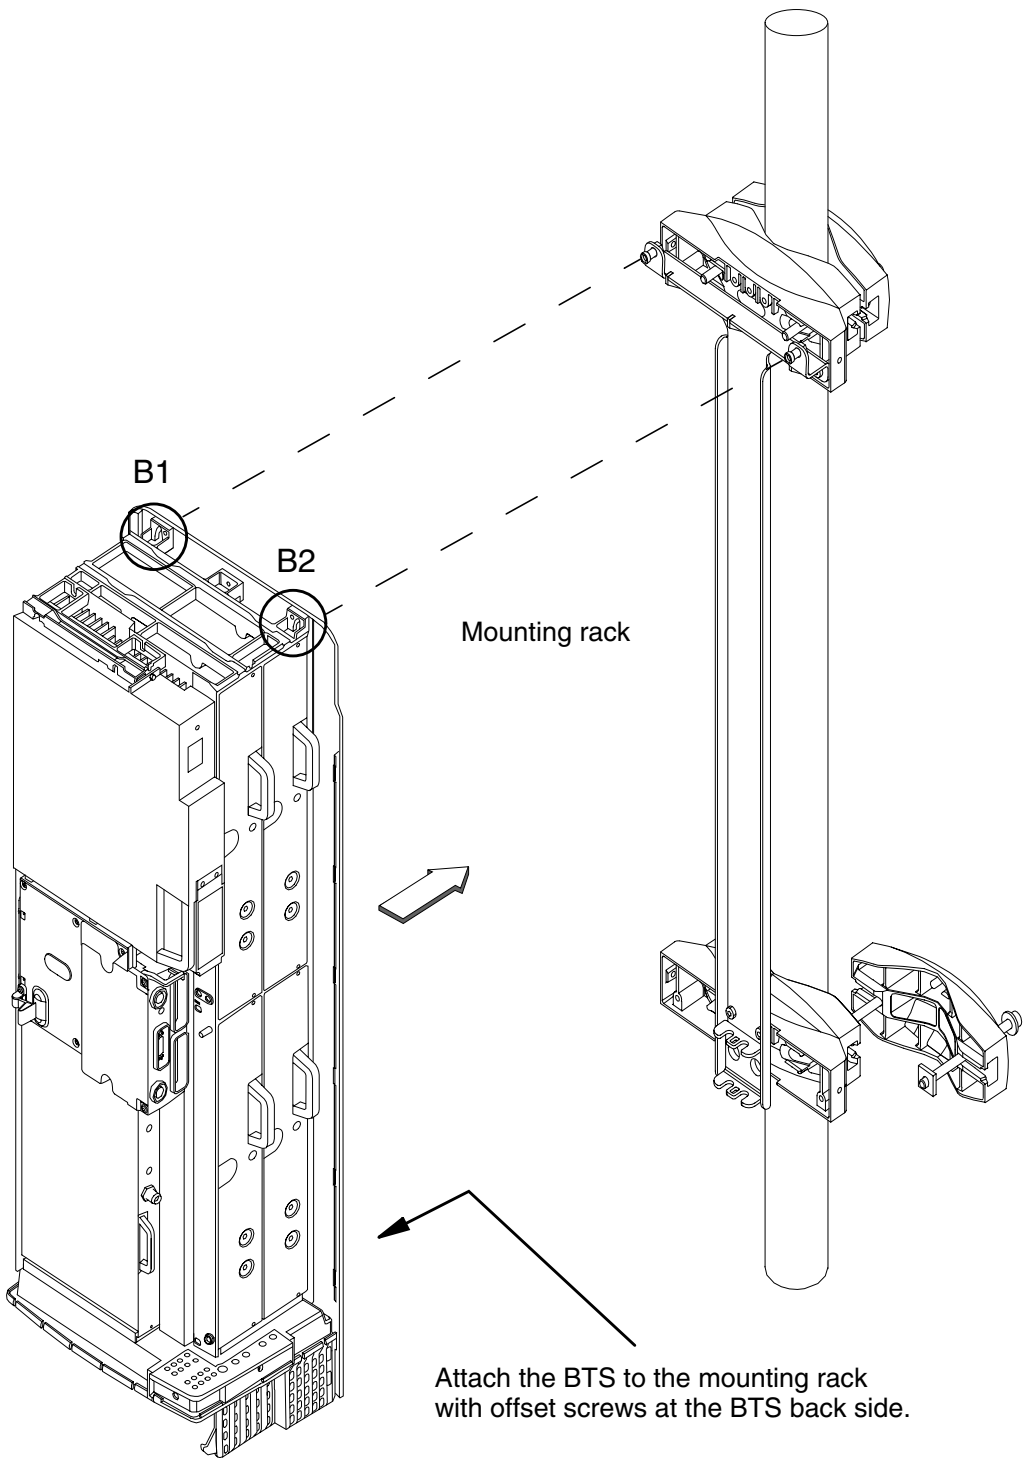

Figure 11. Pole mounting with the small-pole mounting kit
1. Bring the BTS to the mounting rack and hang it on the upper BTS fixing screws, B1 and B2 in Figure 11. Do not tighten them yet!
3. Tighten the upper BTS fixing screws (B1 and B2 in Figure 11) to 5.5 Nm (4.06 lb ft) using a torque driver with a 4 mm Allen bit.